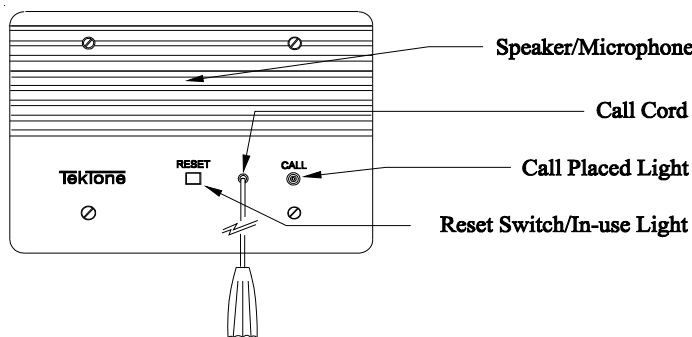

Figure 8 – IR318-series Single Patient Station
- Press the call button on the end of the call cord, or press the red call button with the nurse or cross symbol on the pillow speaker, or pull on the IR318-series call cord. (See Figure 8.)